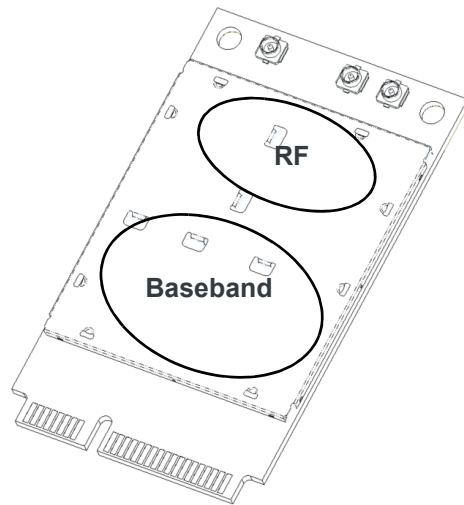

Figure 6-1: Shield locations requiring heat dissipation (Top view)
Specific areas requiring heat dissipation are shown in Figure 6-1:
- Monitor temperature on the underside of the module. Attach thermocouples to the areas indicated in Figure 6-1 on page 53 (Baseband, RF).